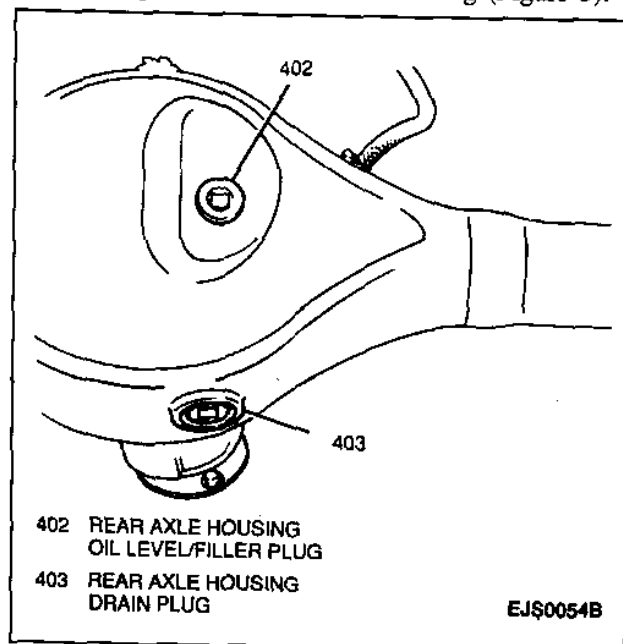

Figure 5 - Rear Axle Housing Oil Level/Filler Plug
3. Rear axle housing oil level/filler plug from rear axle housing (Figure 5).
4. Rear axle housing drain plug from rear axle housing and drain rear axle housing (Figure 5).